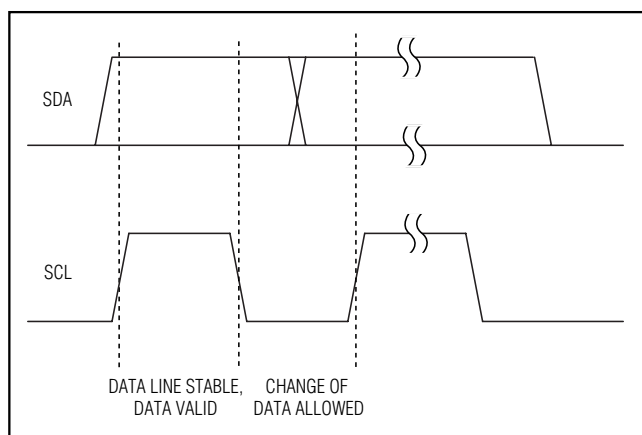
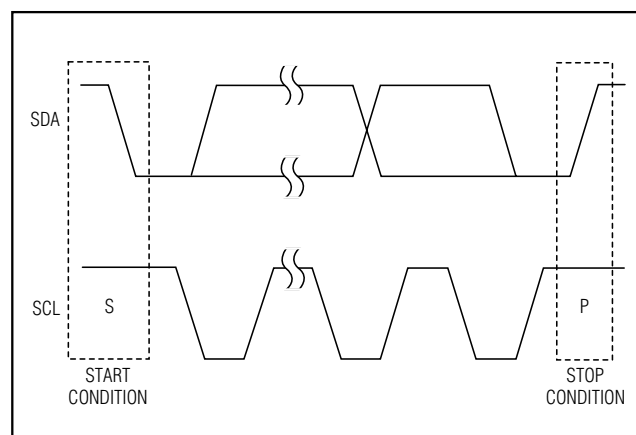

Figure 3. Bit Transfer
Figure 4. Start and Stop Conditions
Each clock pulse transfers one data bit. The data on SDA must remain stable while SCL is high (Figure 3), otherwise the MAX6870/MAX6871 register a START or STOP condition (Figure 4) from the master. SDA and SCL idle high when the bus is not busy.
Both SCL and SDA idle high when the bus is not busy. A master device signals the beginning of a transmission with a START (S) condition (Figure 4) by transitioning SDA from high to low while SCL is high. The master device issues a STOP (P) condition (Figure 4) by transitioning SDA from low to high while SCL is high. A STOP